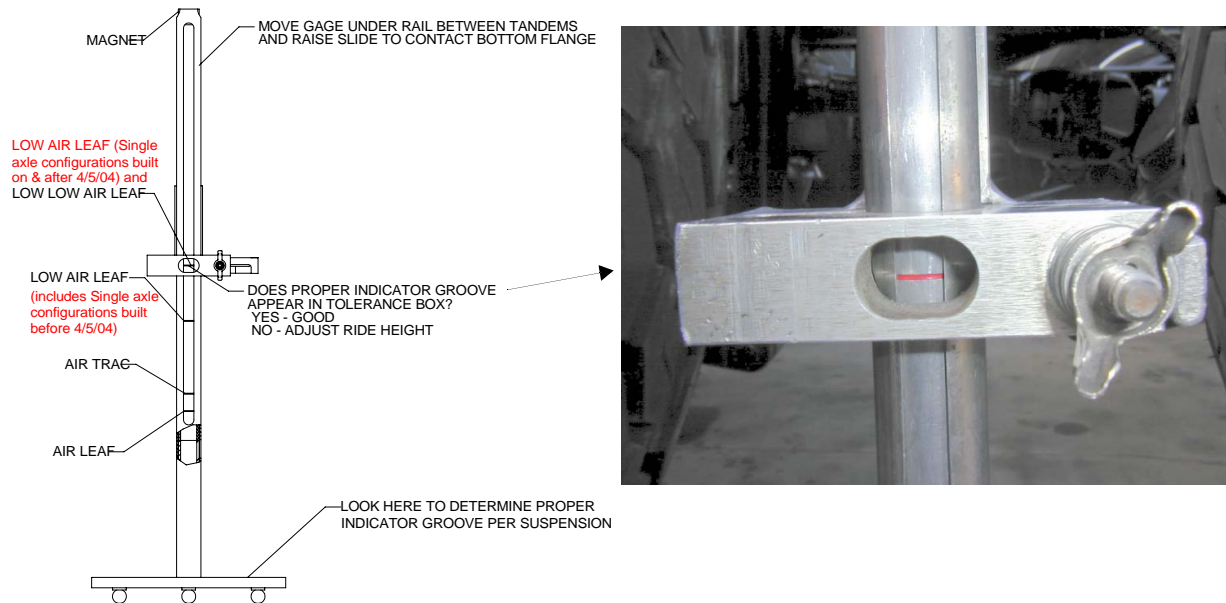

Figure 4 Illustration of Checking Ride Height Indicator
10. Look in the tolerance box and note what indicator groove appears (see Figure 4).